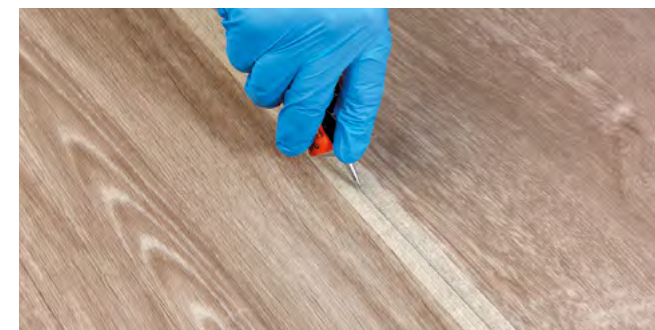

Figure 9.8 Cold welding
- ▶ Cut through the tape at the seam, using a trapezoid or rolling knife with a sharp blade. Apply the welding liquid (Figure 9.8), as per the Werner Muller instructions, ensuring both hands are controlling the tube.